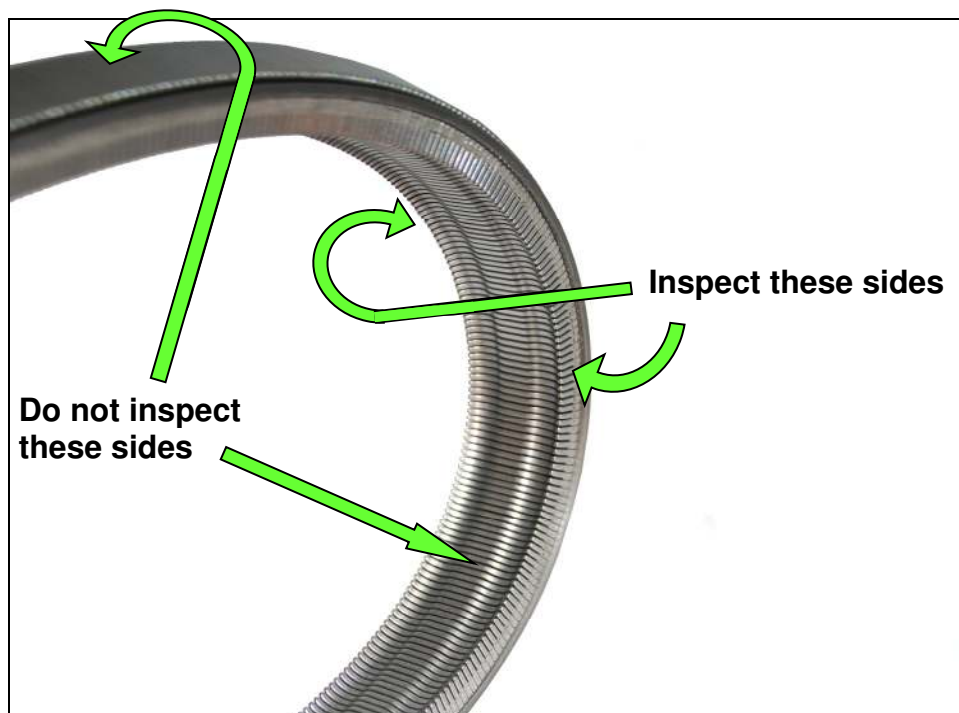

Figure 8
4. Using borescope J-51951 with mirror attachment, inspect the entirety of the two sides of the belt that come in contact with the pulleys (see page 7, Figure 8).